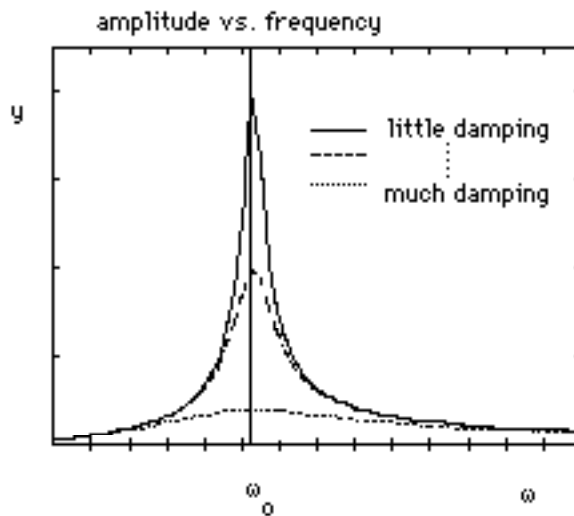

FIGURE 2A
In this experiment, we measure directly two quantities shown in Fig. 2a/b as a function of frequency:
Here,  $F_m$  is the maximum applied force. Were it not for the  $1/\omega$  factor, the maximum of the displacement amplitude would occur at  $\omega_0 = \sqrt{k/m}$ . In fact, as noted above, it is shifted down a little in angular frequency to  $\sqrt{k/m - R^2/4m^2}$ . In general, for small damping, the amplitude resonance curve looks very similar near the resonance to Fig. 2a.
6. Plot  $x_m$  and  $\theta$  each as a function of frequency, displaced vertically, in the fashion of Fig. 2a and 2b. Find and mark on the graphs the frequency corresponding to the peak in the resonance curve and to phase  $\theta = 90^\circ$ . Then, compare these frequencies to your experimental natural frequency result in part 2. Use Graphical Analysis 3 software in the Lab Softwares folder to create your graph.
Is the data and plot of  $x_M(f)$  asymmetrical in a way consistent with equation 10? For instance, does it exhibit the skewed tail observed in Figure 2A? Clearly explain.